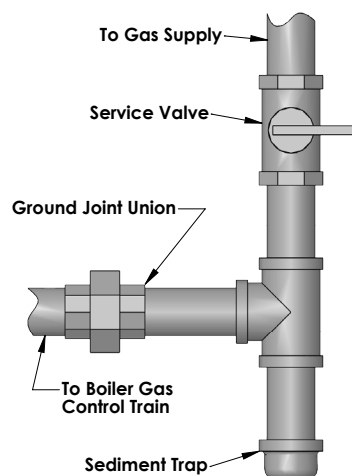

Figure 5.1
- Install a service valve, sediment trap, and ground joint union at the gas supply connection as shown in Figure 5.1.